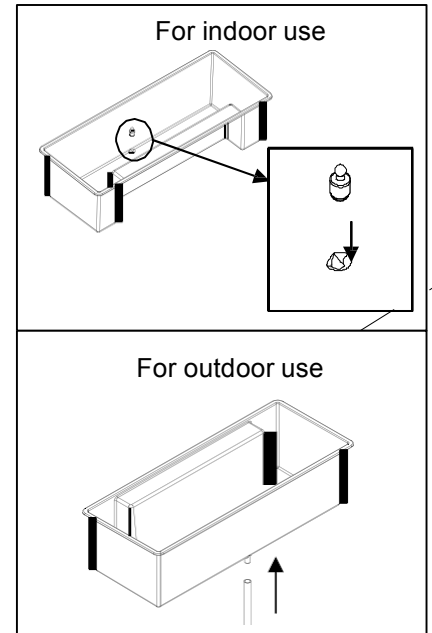

Fig. 10
10. The planter basket has a drain hole. For indoor use, use the rubber stopper and insure it is seated properly. Fill it with water to insure there is no leakage. For outdoor use, do not use the rubber stopper instead connect the tube to the adapter. Fig. 10